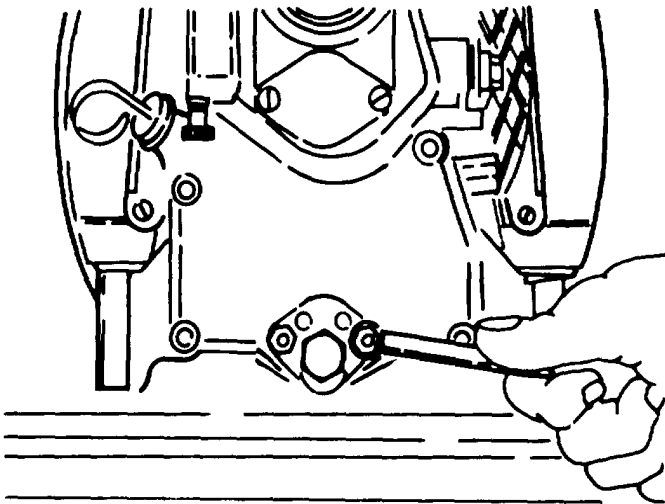

Figure A-52. Oil Screen Assembly
k. Oil Screen Assembly. Reinstall the oil screen assembly using an adjustable mm wrench. Install the oil drain plug using new copper washer. (Figure A-52).